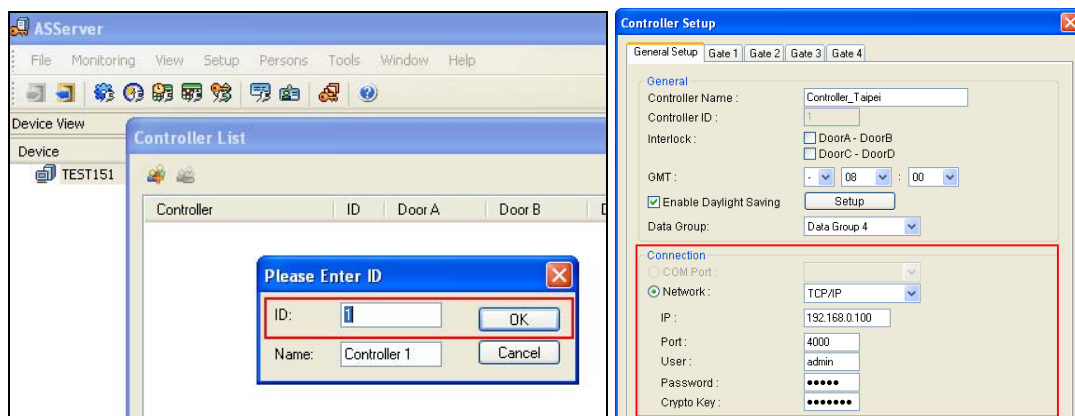

Figure 6-3
7. On the GV-ASManager, enter the following settings. See Figure 6-3.